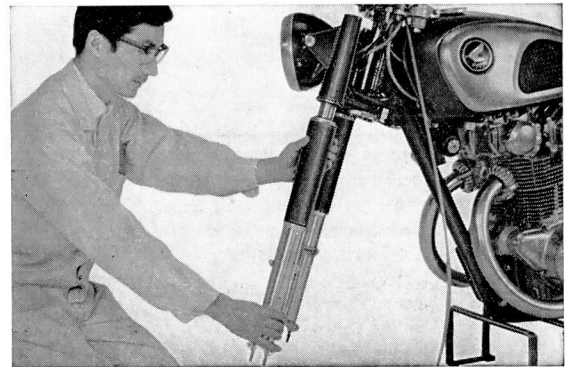

Fig. 4.23 Installing the front fork into the steering
5. Install the front cushion assembly on the steering stem. Fill each cushion with **285~295cc** (17.4~18.0 cu-in) of hydraulic fluid through from the front fork bolt hole and install the front fork bolt upon completing the filling. Lock the cushion at the bottom bridge by tightening the 10mm bolt. (Fig. 4.23)